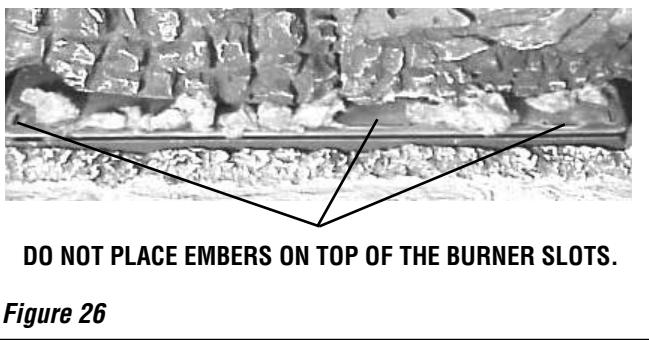

Figure 26
- Distribute the pieces over the top of the front burner ports avoiding covering the slots (see **Figure 26**) and filling the area in front of the forward logs.